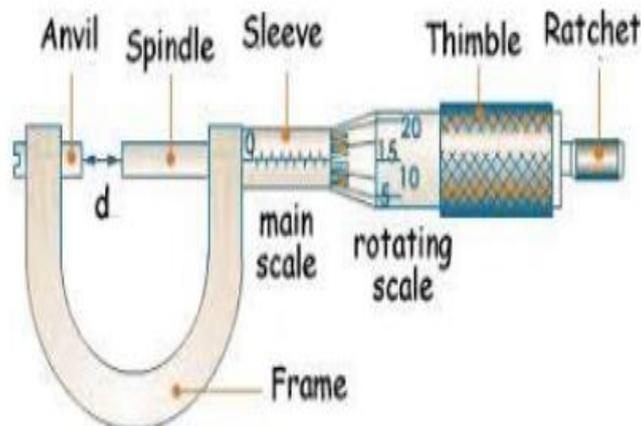

Figure 1.1: Schematic of a typical screw gauge
- In figure 1.1, an image of a typical screw gauge is presented. With the ratchet, the circular scale can be moved over the linear scale. The distance covered on the linear scale with one complete rotation is called Pitch of screw gauge.